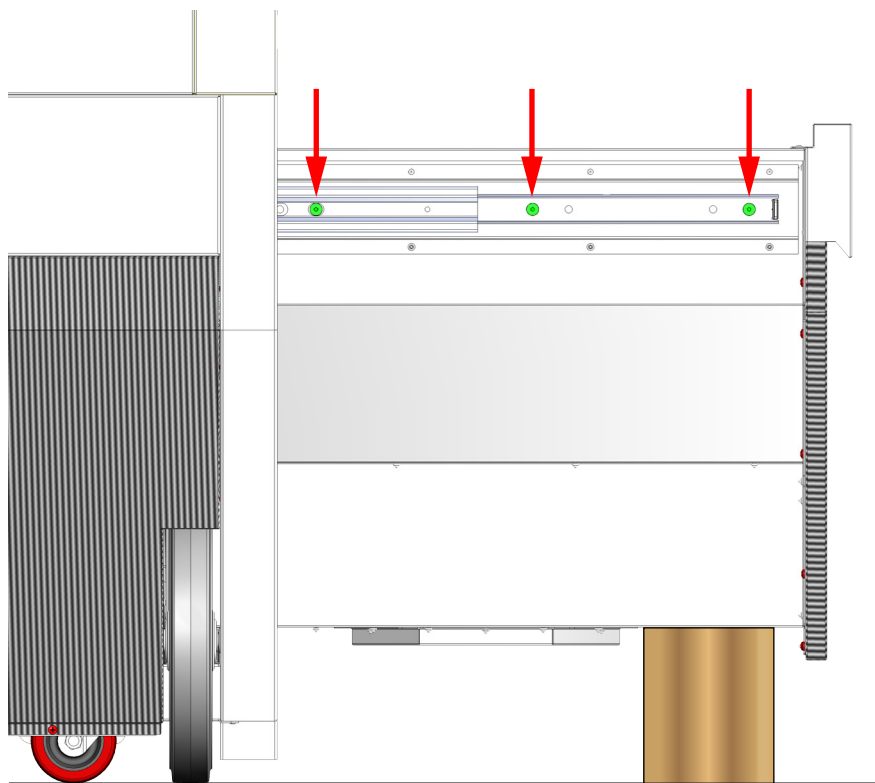

FIG. 1
1. Fully extend the large drawer and place a block of wood beneath to support the weight of the drawer. Using an Allen wrench, remove 3 attachment bolts on each drawer slide (red arrows) as shown in Fig. 1. Remove the drawer from the grill cart with help from an assistant.